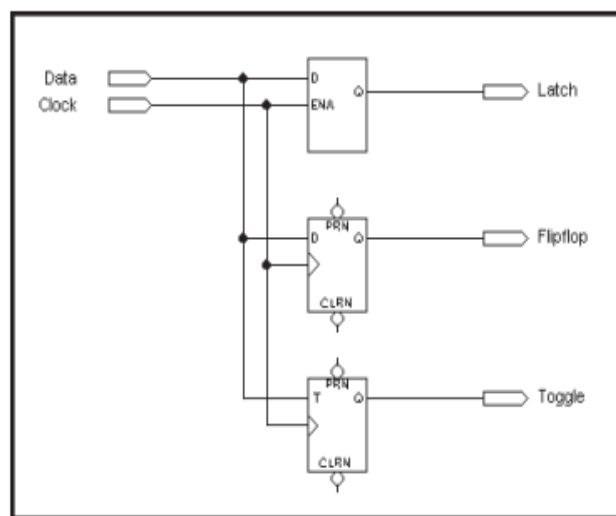

Fig.5.4: Three types of storage elements in a schematic
- Fig 5.4 shows a schematic created with a schematic capture tool, which includes three types of flip-flops that are imported from a library provided as part of the CAD system.